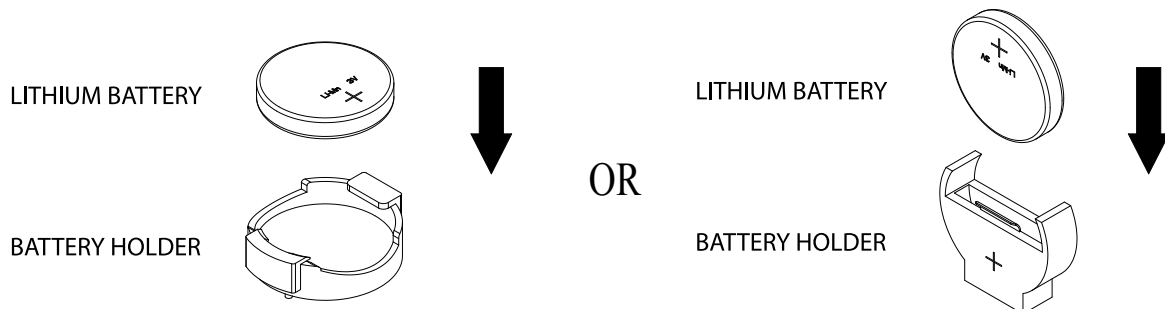

Figure 7-3. Battery Installation
2. Locate the onboard battery (see Figure 7-3).